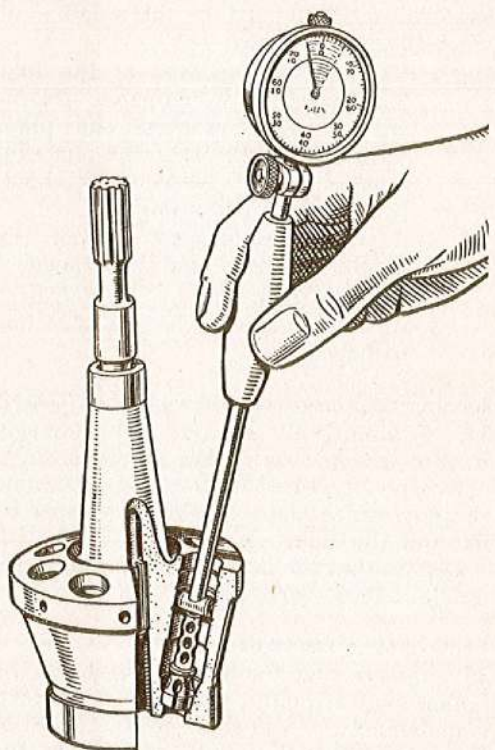

Fig. 14. Checking rotor piston bores for wear
- Op. 4. Examine the piston bores for scores and the presence of foreign matter in the oil relief grooves. Ensure that the diameter of the piston bores when measured in four positions with a clock gauge (fig. 14), namely when measured diametrically in two positions at 90 deg. to each other at the top and midway down the piston bore conforms with that allowed, and as listed in Part 2 of this Volume. Also ensure that the maximum worn clearance does not exceed that specified.